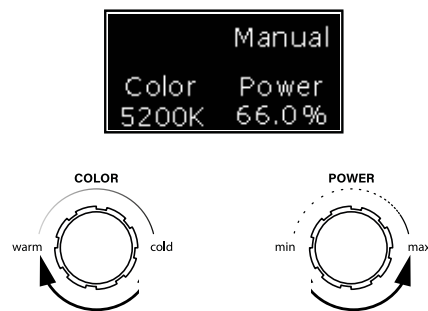

Fig. 17
2. The left encoder controls the color temperature. The right encoder controls the brightness of the unit (Fig. 17).